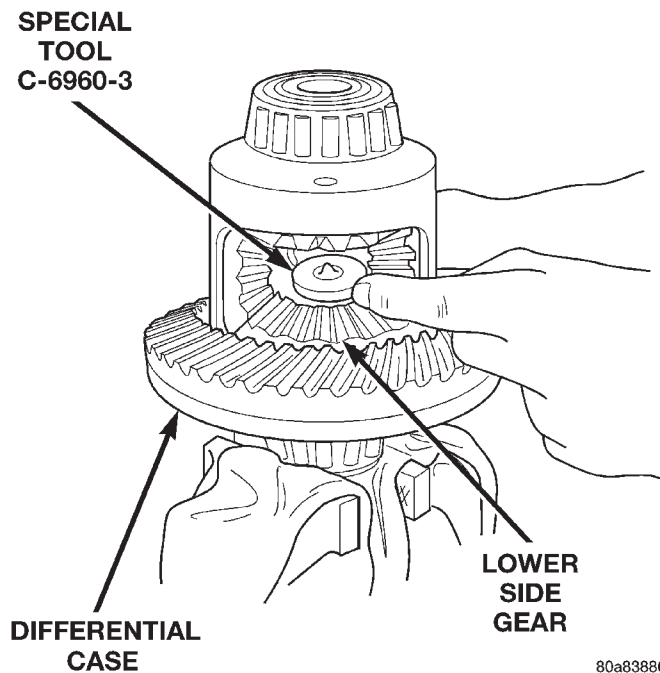

Fig. 67 Step Plate Tool Installation
- (6) Install and lubricate Step Plate C-6960-3 (Fig. 67).